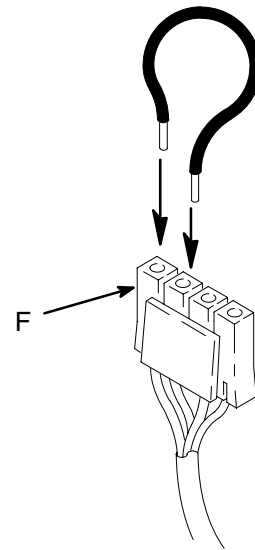

Fig. 3
3. Fig. 10. Remove four screws (60), pressure control cover (49), two screws (108), control panel (67). Fig. 3. Disconnect motor connector (F).
1. Fig. 3. Connect red and black motor leads together with test lead. Turn motor fan by hand at about two revolutions per second.